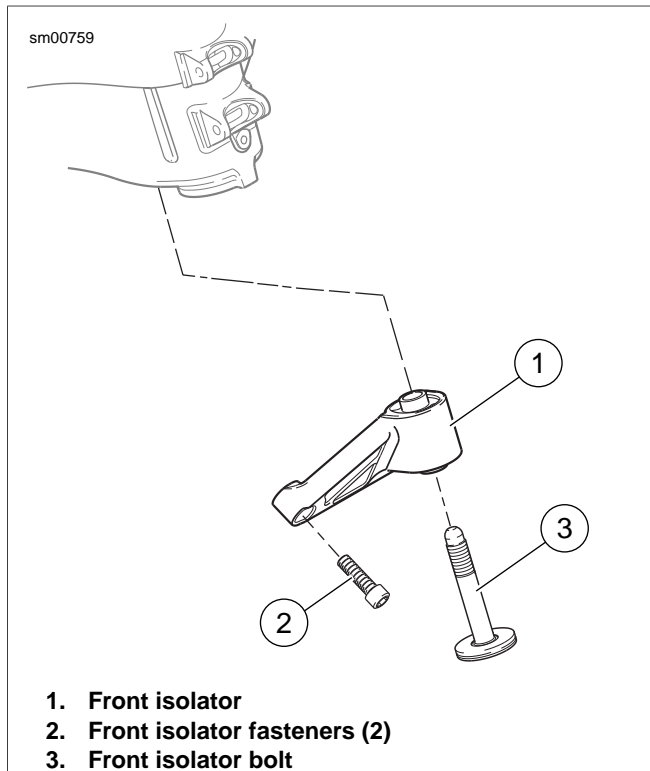

Figure 3-35. Front Isolator
9. See Figure 3-35. Insert front isolator bolt (3) through front isolator (1) and loosely thread into frame. Do not tighten at this point.
10. Install isolator mounting fasteners (2) and tighten to 49-51 ft-lbs (66-69 Nm).